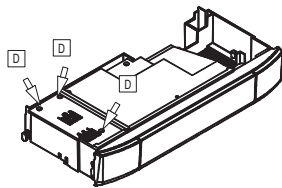

Figure 15.8
- Loosen screws D and remove the service panel (Figure 15.8).